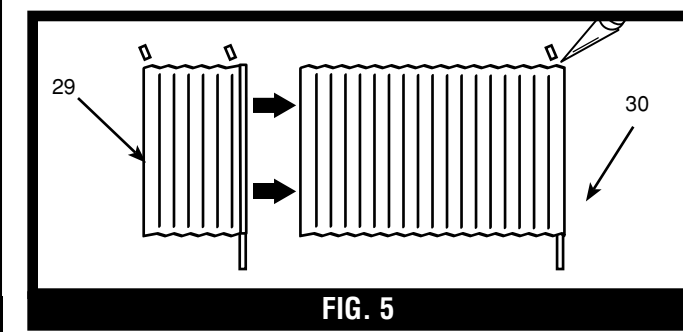

FIG. 5
1. Cut extensions from top of corrugated fence panels (Fig. 5).
2. Lay flat and glue edges together as indicated in Fig. 5. Configure corrugated fence panels per Fig. 13.